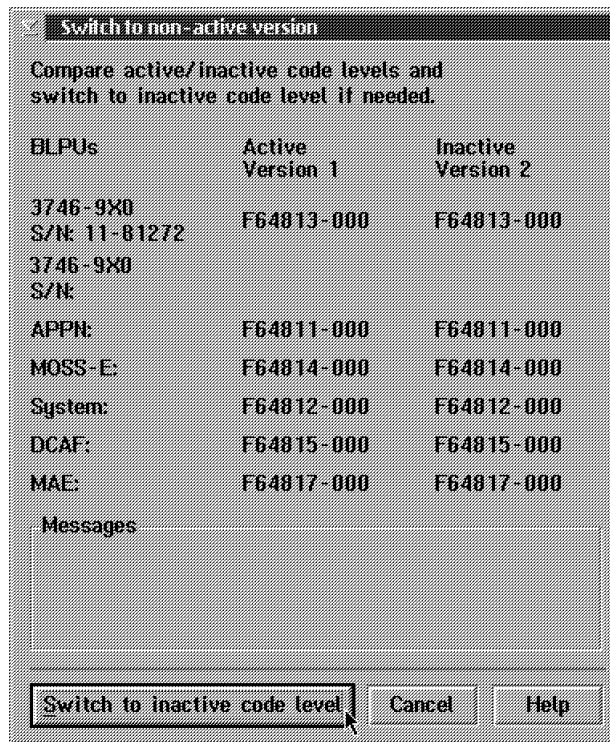

Figure 2-11. Switch to Non-Active Version
5. The Switch to Non-Active Version (see Figure 2-11 on page 2-14) panel appears. Follow the prompts.